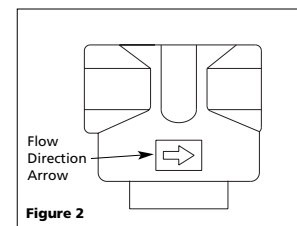

Figure 2
1. Locate the air flow direction arrow (See Figure 2, detail). This arrow shows the direction of the air flow, i.e., it points to the outlet.
- Verify the arrow points to the outlet. (See Figure 2.)
3. Verifique que la flecha apunte hacia la salida (Vea Fig. 2).